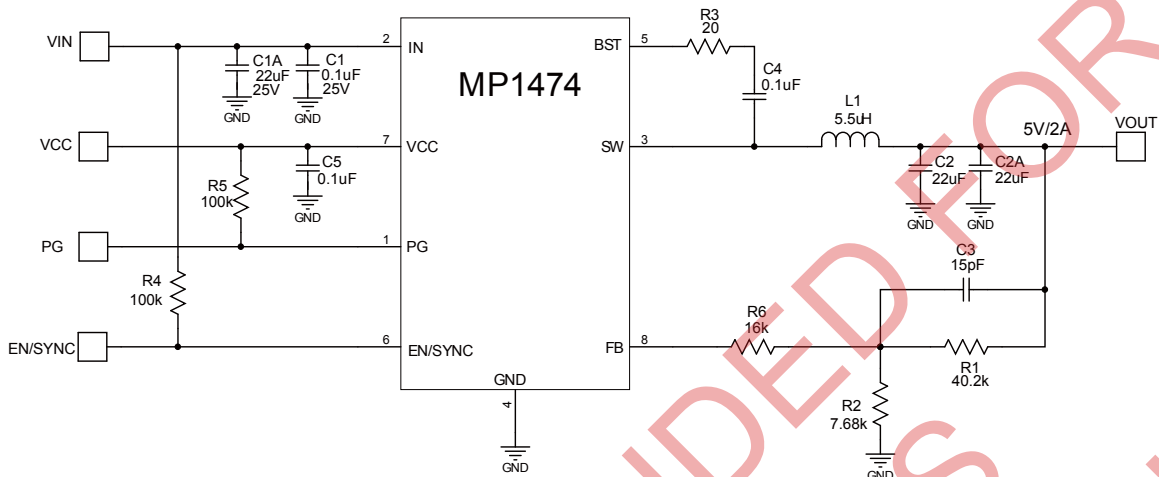

Figure 7: 12VIN, 5V/2A Output
- 8) The recommended layout is based on the Figure 7 Typical Application circuit on the next page.